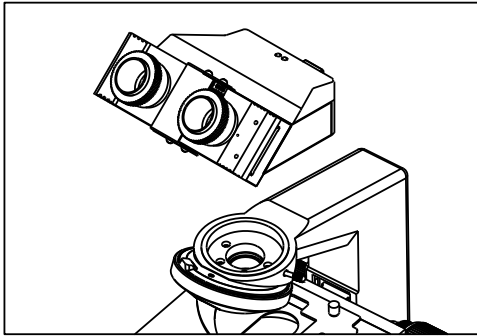

Fig.1
2.2.1 Installing Binocular viewing head (Fig.1, 2)